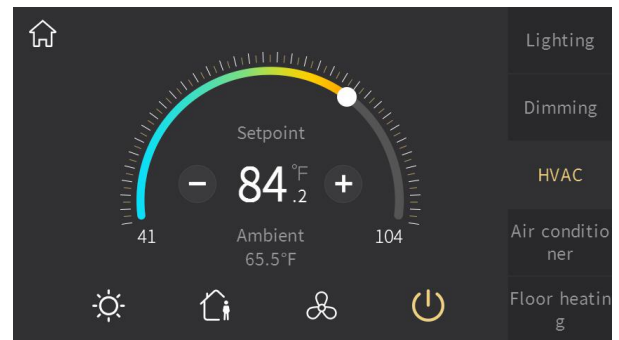

Fig.2.3.2
- ② This area displays the page description identification of HVAC function page, user can define the description through ETS;
- ③ Return to the home page by touching this icon;
- ④ Sliding this ring slider to adjust the setting temperature;
- ⑤ The function of this icon is to decrease the temperature;
⑥ The function of this icon is to increase the temperature;
Adjusting the temperature by sliding the ring slider④ or touching the icon⑤ and icon⑥. For each touching of icon⑤ and icon⑥, the adjustment range is 0.5 degrees. When the setting temperature unit is set to degrees Celsius(°C), as shown in 2.3.1, adjustment range of the setting temperature is 5~40°C by default; when the setting temperature unit is set to Fahrenheit(°F), the current temperature value will automatically convert to Fahrenheit value, as shown in Fig.2.3.2, adjustment range of the setting temperature is 41~104°F by default. The temperature adjustment range can be modified through parameter setting.